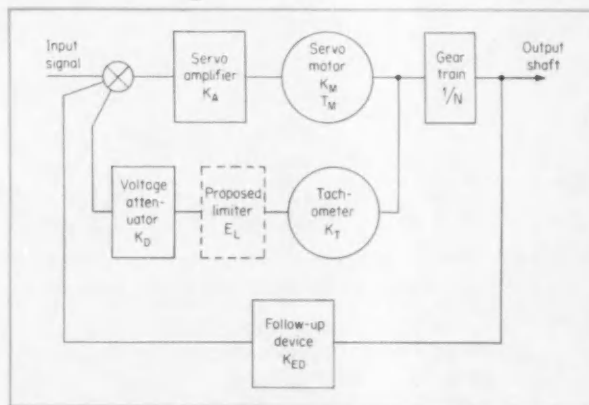

FIG. 1. A typical tachometer-stabilized instrument servo, including proposed limiter.
6. Since the intersection of PN and the semicircle ORB lies outside the circle of radius OA' and the intersection of the semicircle ORB and the circle of radius OA' lies in the shaded portion of Figure 1, choose L to lie on intersection of the circle of radius OA' and the perpendicular to OA through point O. This is clearly CASE III.
The servo designer is frequently confronted with the problem of improving an existing system to meet a desired specification. Though increasing the accuracy and complexity of the individual servo components is a method very often used, there is another way that will sometimes yield the desired performance improvement without further hardware changes. This is to introduce a nonlinear element. Tachometer-damped servos, such as shown in Figure 1, are a good example.
Four quantities describe the performance of the tachometer-damped servo of Figure 1: velocity error, transient response, static error, and natural frequency. Of these, the main concern is with velocity error and transient response, since static error and natural frequency are unaffected by adding the limiter.
where the symbols are defined in Figure 1. This value is normally constant, but varies with system rate when the tachometer limiting element is introduced.